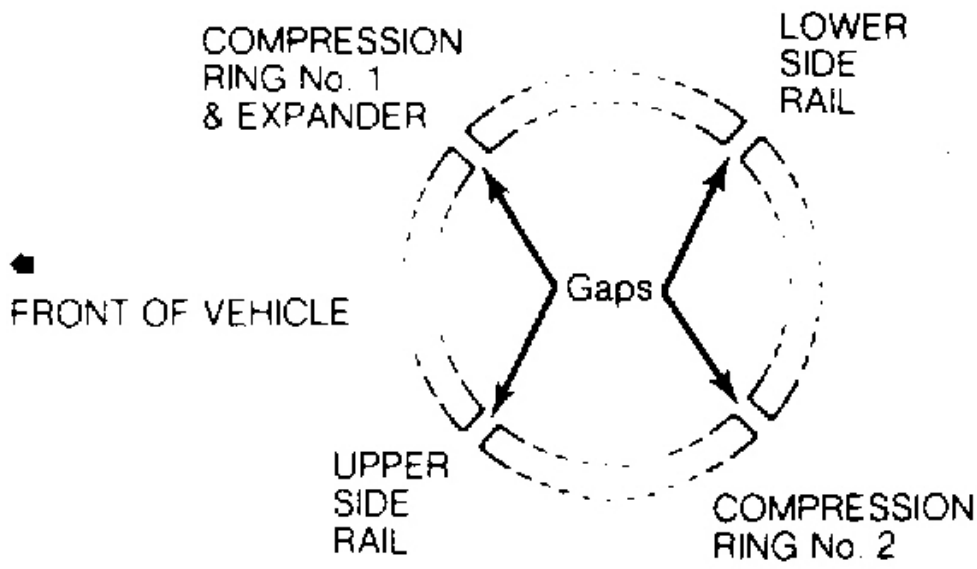

Fig. 7: Correct Piston Ring Gap Arrangement
Lubricate piston, cylinder and journal with clean engine oil. Position rings, and install ring compressor. See **Fig. 7**. Stamped mark on ring must face upward. Install piston/rod assembly in proper position with notch on piston top facing forward.
2. Position rings on piston with "T OR N" marks facing upward. Position ring end gaps correctly. See **Fig. 7**.